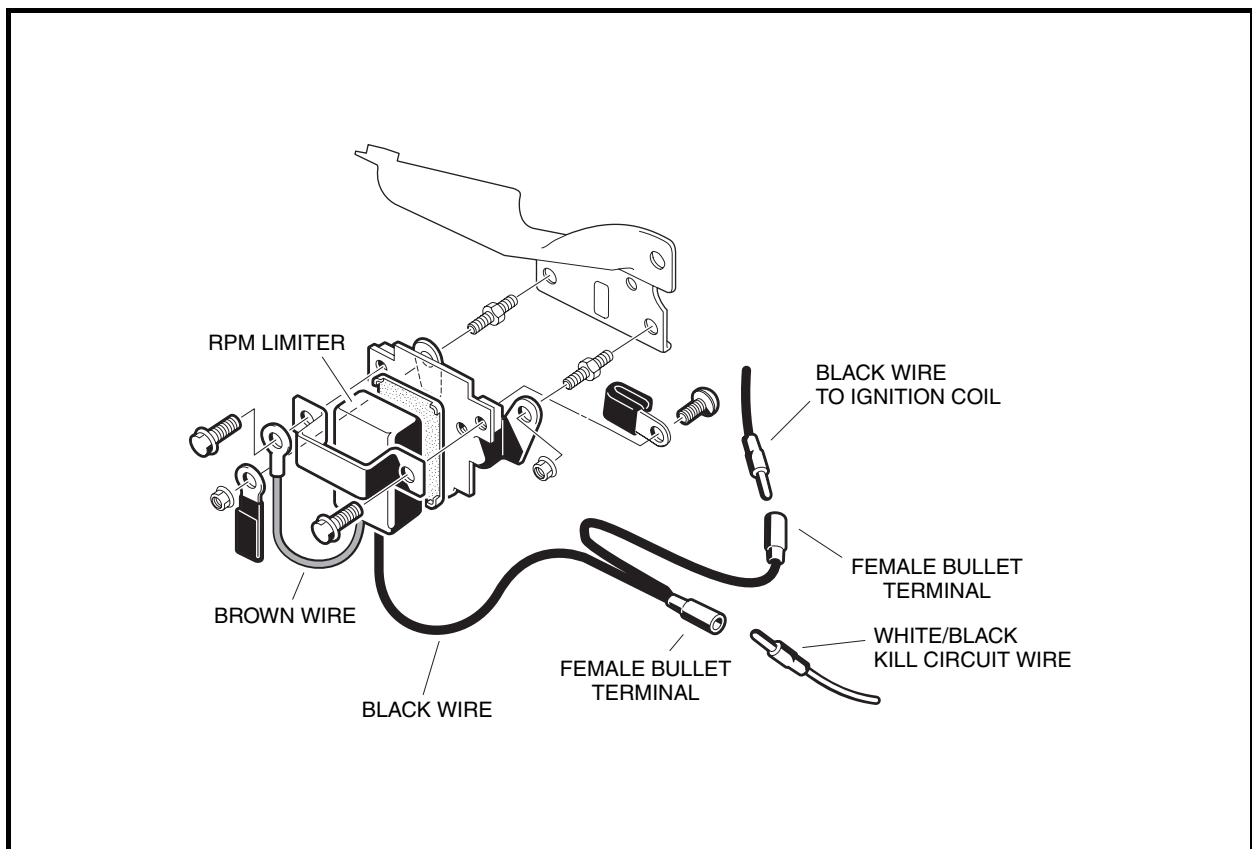
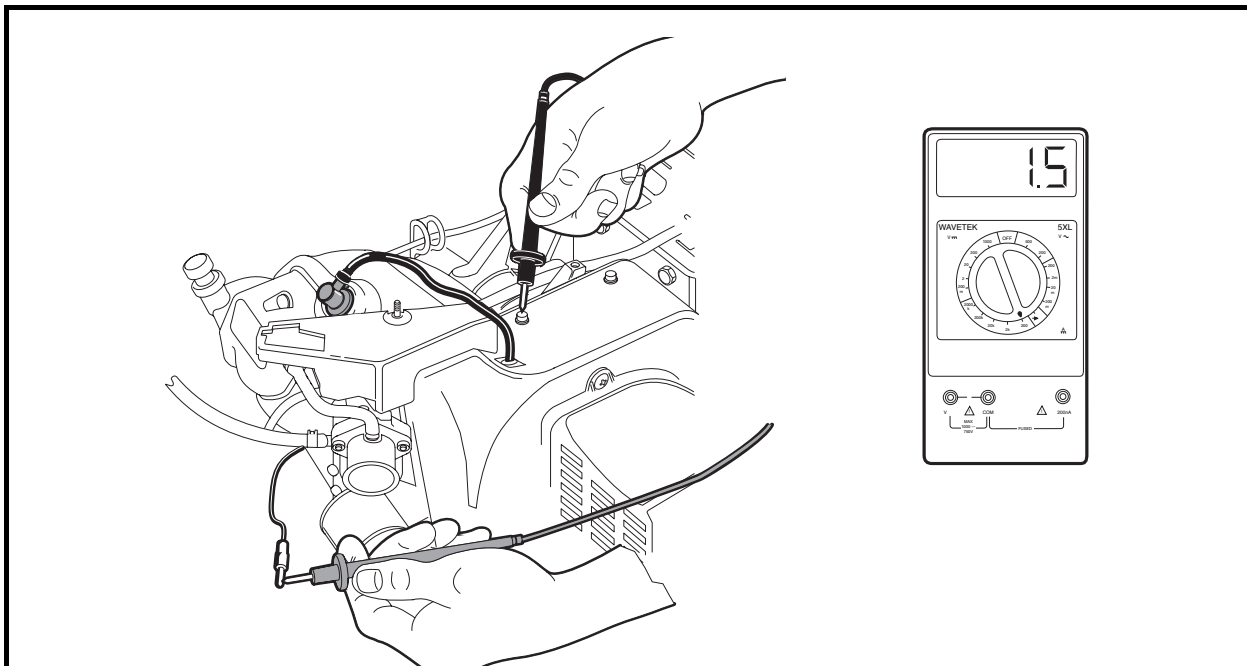

Figure 11-24 RPM Limiter
Figure 11-25 Primary Coil Resistance – In Vehicle Test
2. Disconnect both of the bullet terminals (Figure 11-24, Page 11-25).
- 2.1. Disconnect both of the bullet terminals at the RPM limiter (**Figure 11-24, Page 11-25**). Place the red (+) probe of the meter on the male bullet terminal of the wire connecting to the ignition coil under the fan housing, and place the black (-) probe on a clean unpainted surface of the engine or frame (**Figure 11-25, Page 11-26**).